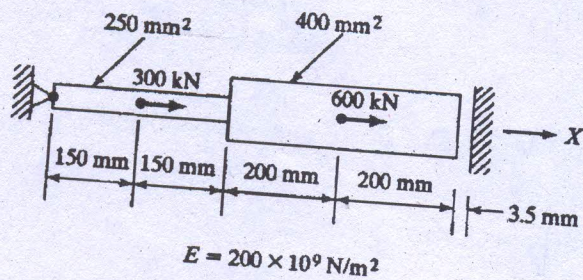

Figure 1
12. (a) A two-step, bar subjected to loading condition as shown in Fig.1 is fixed at one end and the free end is at a distance of 3.5 mm from the support. Determine